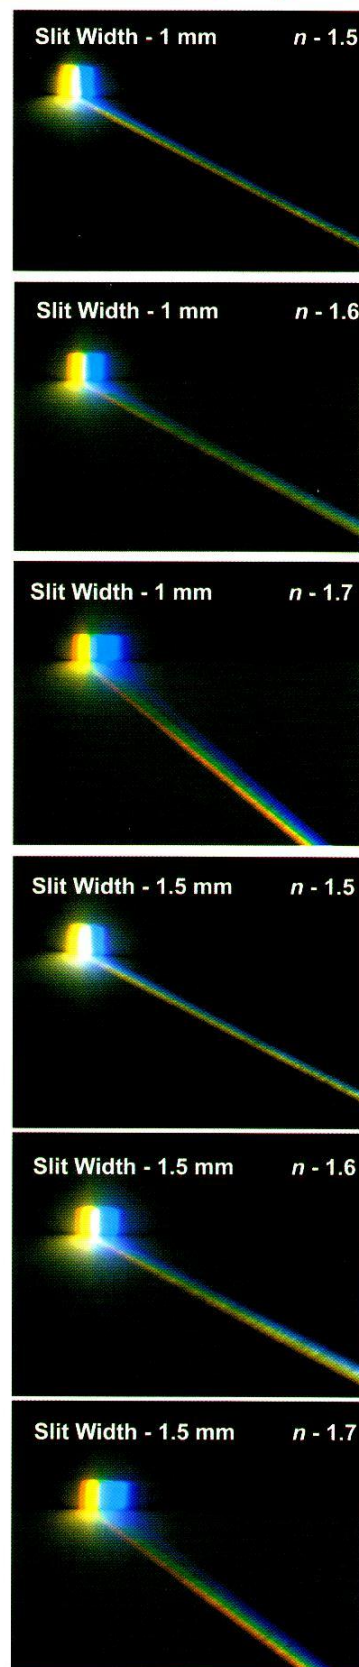

Figure 3 Sets of spectra with various slit widths and refractive indices.
Our compromise depends on (1) the focal length of the lens, (2) the width of slit and (3) the refractive index n of the prism glass (Table 1) (Fig. 3 - opposite). For best results, so that all of the colours are vividly bright and well dispersed to be readily distinguishable, the slit width should be narrow (1.0 mm) and the refractive index high (1.7). We found that if the refractive index of the prism glass is only 1.5, as is the case with crown